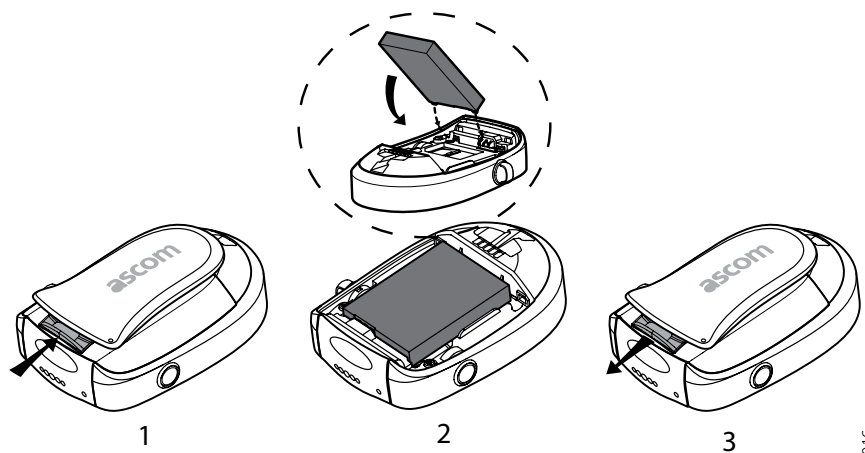

Figure 16. Battery replacement.
- 3 Insert the new battery, check that it is the correct battery, see Correct battery on page 28, into the battery compartment (see figure 16 on page 28.)